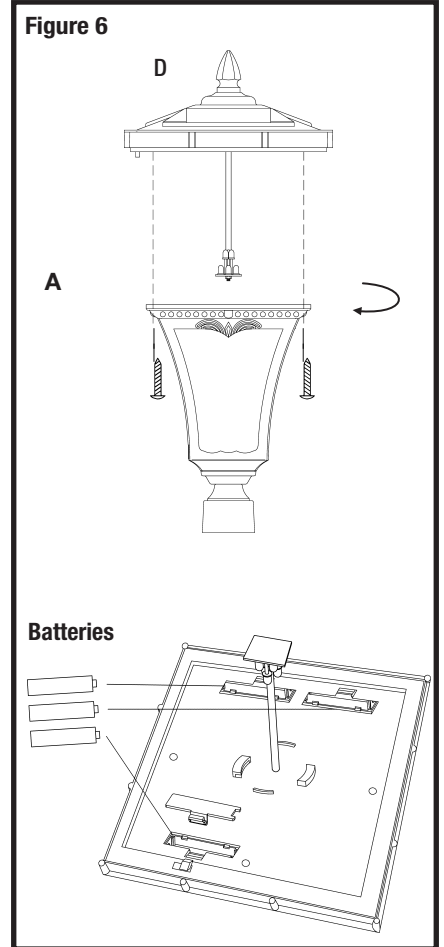

Figure 6
1. (SEE FIGURE 6) Remove the screws from the top of the lantern housing (A) as shown in figure 6.
2. Carefully lift the top off the housing (D), and open the three battery compartments.
5. Replace the lantern top (D) on the lantern body (A) and secure with 2 screws retained from step 1.